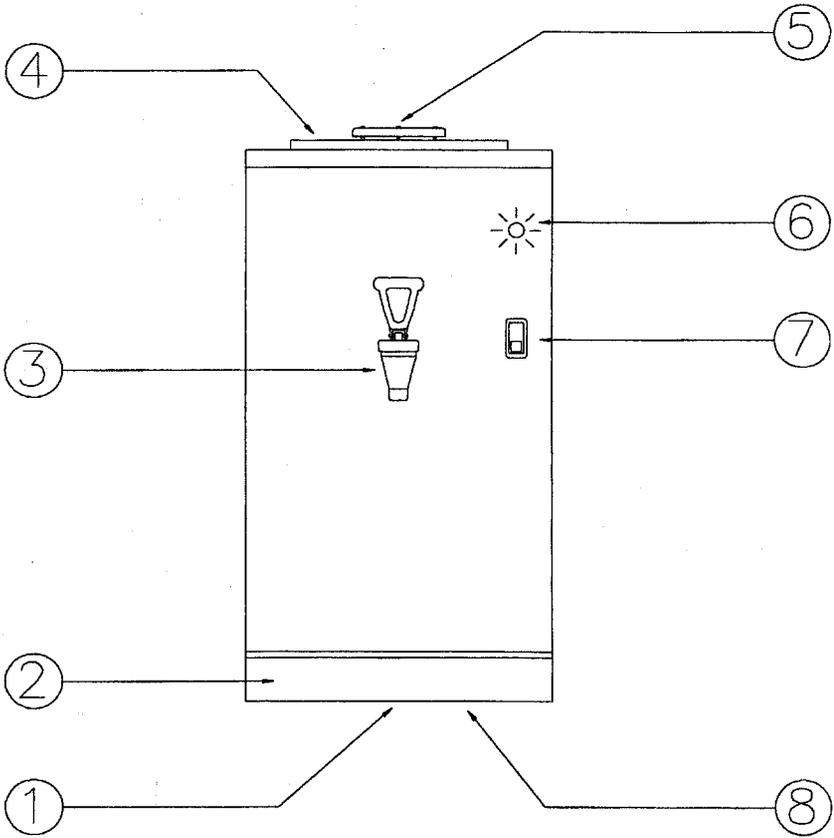

Fig. 2
The hot water machine, model HWA 50, shown in the figures 2 and 3 has an electronically controlled hot water system mainly consisting of a water boiler and a measuring system. In the water boiler the water is kept at a previously determined temperature. When the hot water is drawn from the system, the boiler is filled with cold water via the measuring unit.
The appropriate list of indication is shown below (fig. 2).
- Check if the drain (nr. 1, fig. 2) of the hot water boiler is closed.
- Remove the lid (nr. 4, fig. 2) from the hot water container.
- Switch on the boiler (nr. 7, fig. 2).
- Wait for the red "water temperature too low" indicator (nr. 6, fig. 2) to go out.